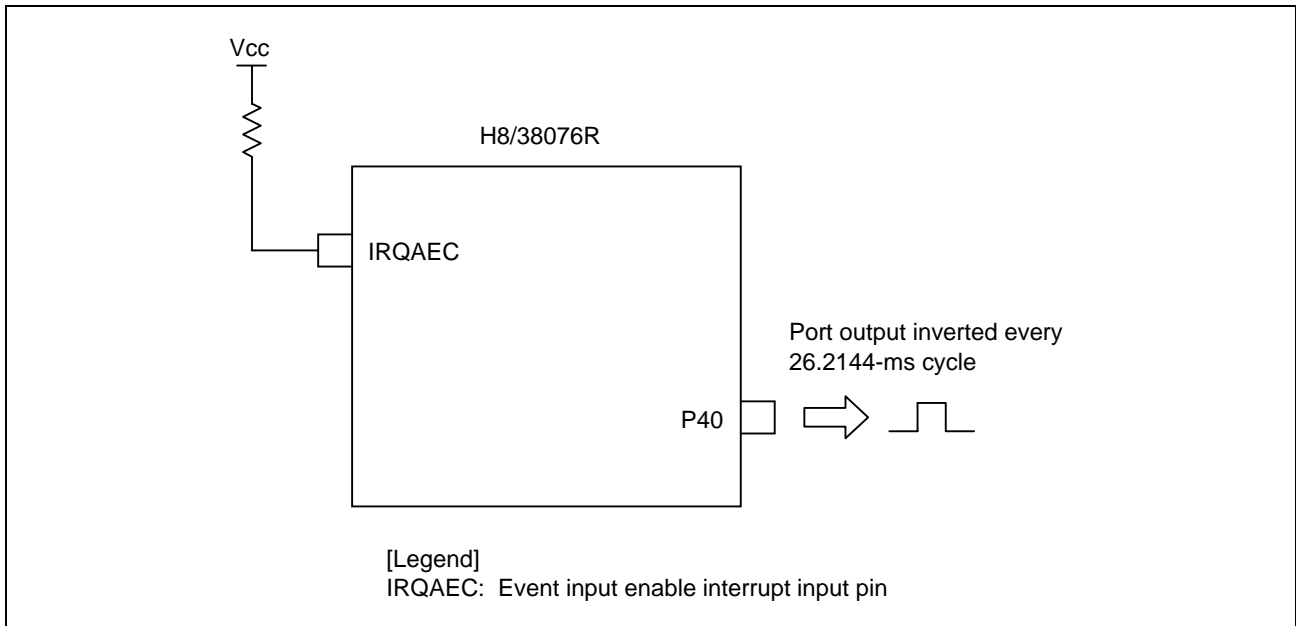

Figure 1 Example of AEC Interval Timer Operation in the 16-Bit Mode
- The asynchronous event counter is used as an interval timer in the 16-bit mode to invert the P40 pin output every fixed cycle (26.2144 ms), as shown in figure 1.